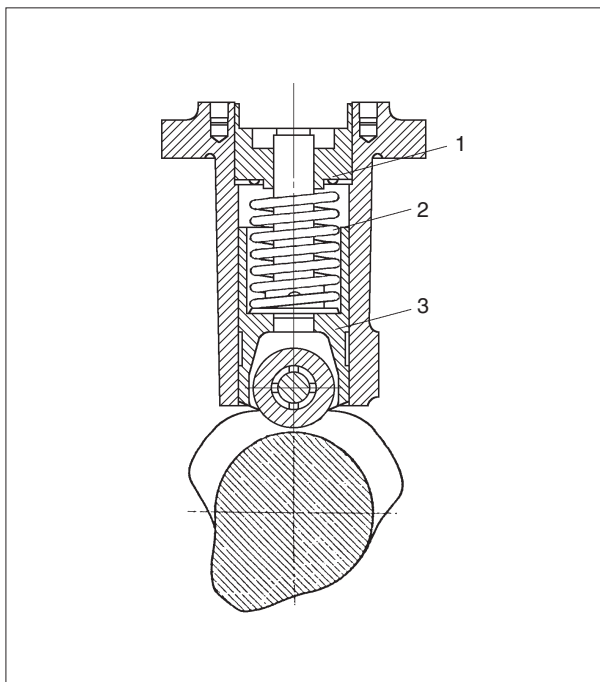

Fig. 1.
1) Remove the support ring (1) and spring (2) and take up the roller guide (3), see fig. 1.